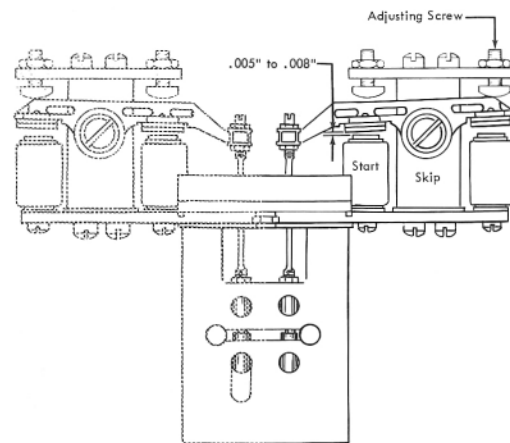

Figure 13. Space Magnet Start Position
9. With the space start magnet energized, adjust the backstop farthest from the operating rod for .005" to .008" clearance (preferably .005") between the armature and the start magnet cores (Figure 13).